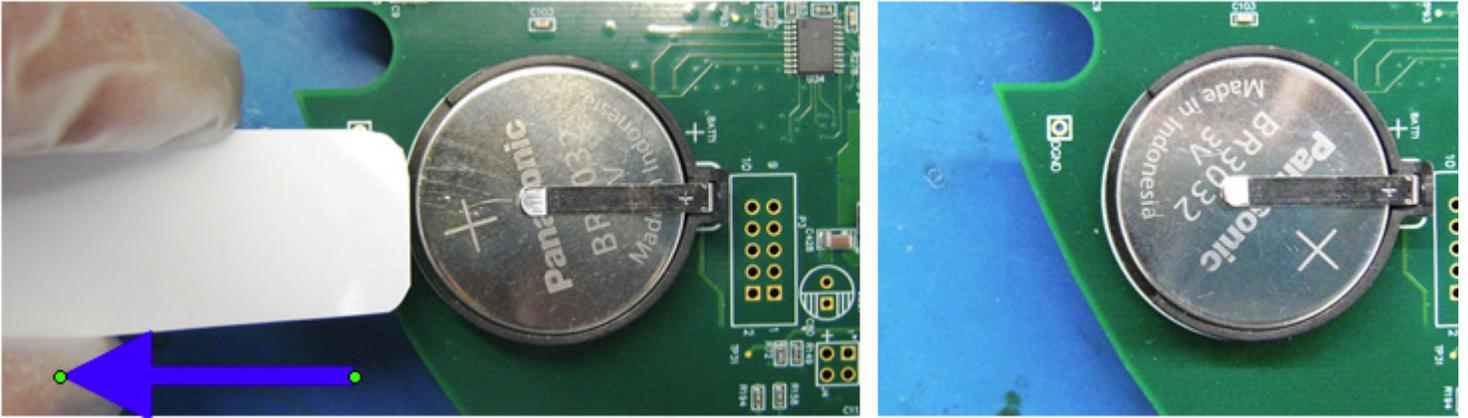

Figure 3.16: Removing the Battery Insertion tool and Battery Installed Correctly
14. Gently pull the battery insertion tool out from under the installed battery and make sure the battery is fully installed into the holder. See Figure 3.16.